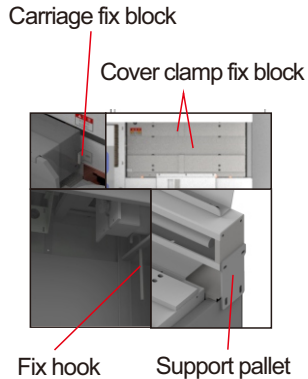

Figure 1
- 6.1.1. Remove the carriage fixing block and cover plate fixing block, and remove the fixing hook inside and support pallet. As figure 1, install the cover pallet, book support plate and shelf.